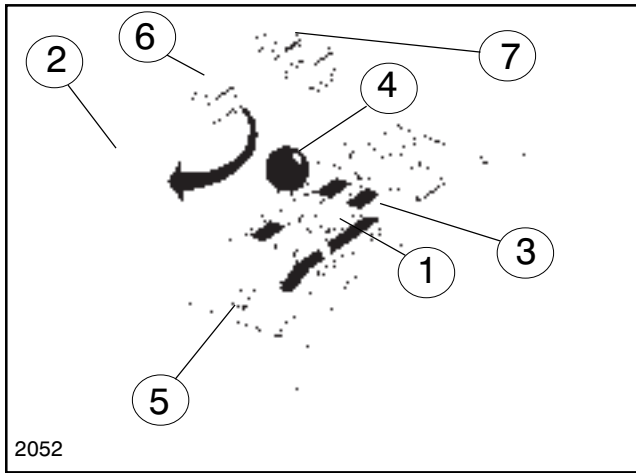

FIG. 8
13. Lift and remove the three plugs from the Center Console Panel and install the three Rocker Switches provided in the location shown in Fig. 8, page 4. Insure their orientation matches the orientation shown in FIG. 8, page 4, with the cut-out notch to the rear of the vehicle. This notch indicates the end of the switch to which the locking Arm (Connector Housing) will mate.